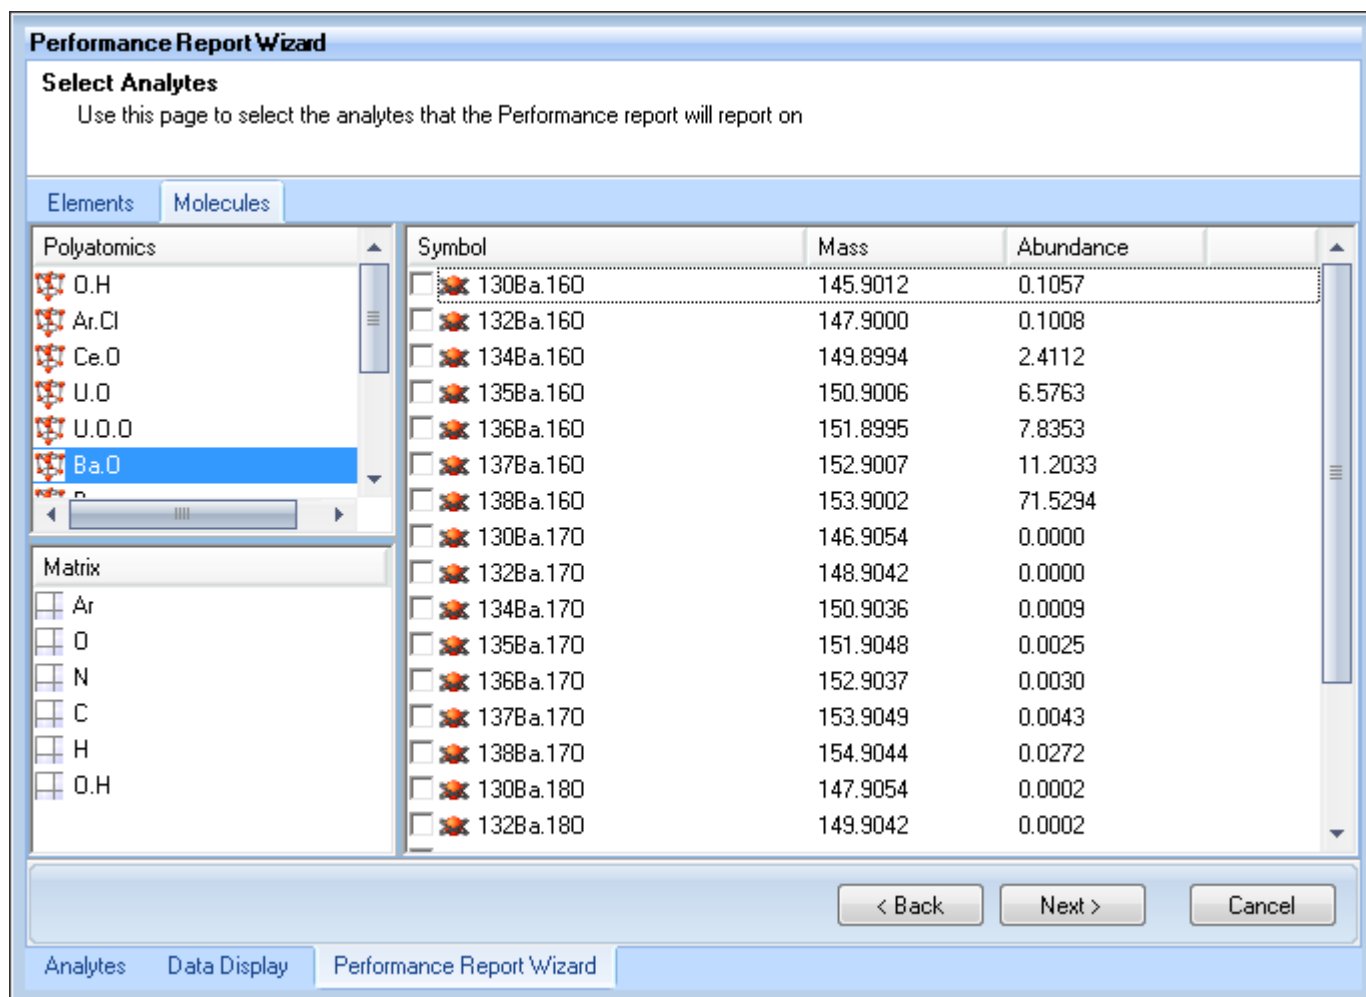

Figure 4-31. Selecting molecules for the Performance Report Wizard
7. Click the **Molecules** tab and select molecules, if appropriate, see Figure 4-31.